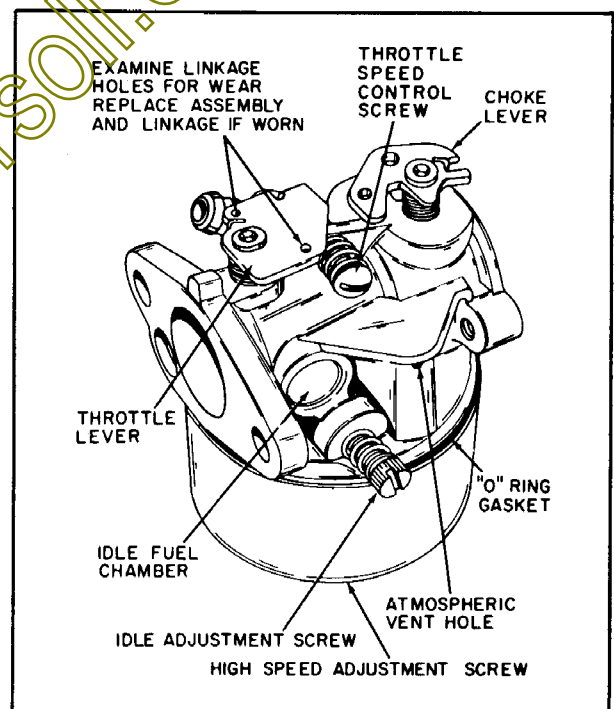

Figure 4-18
e. A welch plug on the side of the carburetor body, just above the Idle Adjusting Screw seals the Idle Fuel Chamber. (Figure 4-18) This welch plug may be removed for thorough cleaning of the idle fuel mixture passage and the Primary and Secondary Idle Fuel discharge ports. Clean with solvent and compressed air. DO NOT use any tools that may change the size of the discharge ports.